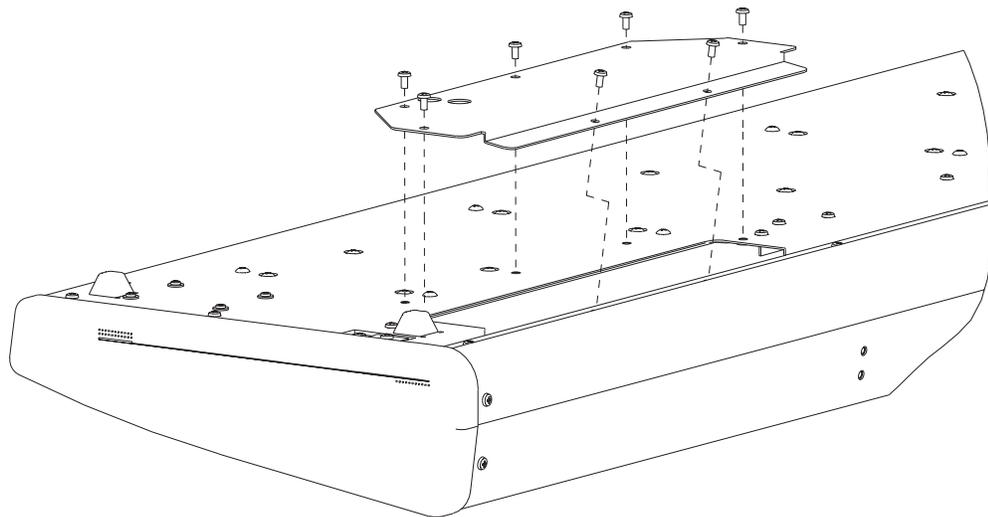

Figure 1 **Removing the retaining screws**
4. Using a #1 Phillips screwdriver, remove the seven screws that secure the access panel, as shown in Figure 1.